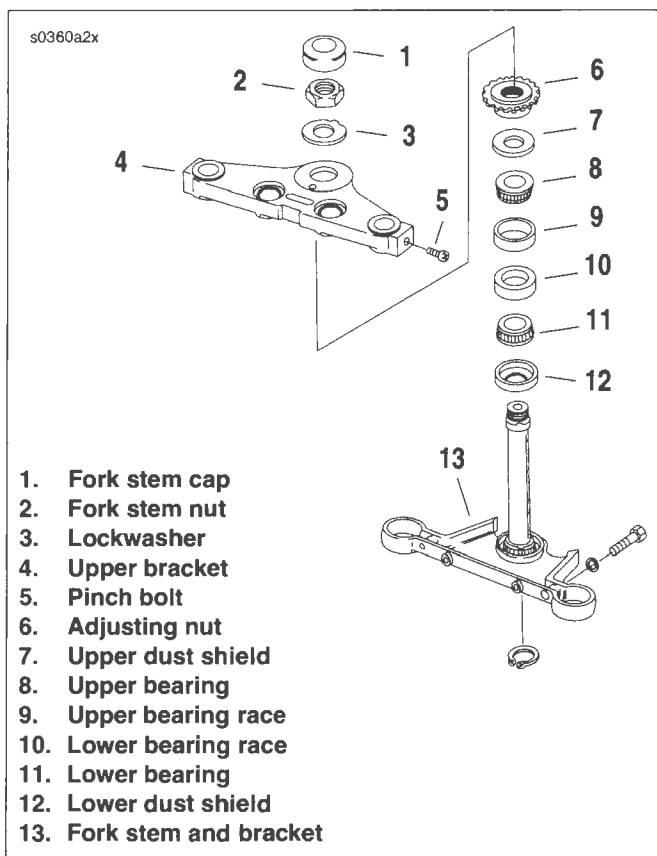

Figure 2-105. Steering Head: FXSTD/FXST/FXSTC/FXSTB
3. See Figure 2-105. Remove the brake hose bracket from the bottom of the fork stem and bracket (13).
4. Remove the fork stem cap (1). Bend the lockwasher (3) tab away from the fork stem nut (2). Remove the fork stem nut with the handlebar and upper bracket (4).
5. Remove the adjusting nut (6) and pull the fork stem and bracket (13) out of the steering head. Remove the upper dust shield (7).
6. Remove upper bearing (8).
1. See Figure 2-105. Insert the fork stem bracket assembly (13) into the frame steering head and install the upper bearing (8) and dust shield (7). Secure with the adjusting nut (6). Tighten adjusting nut until the bearings have no noticeable shake. Fork stem must turn freely from side to side.